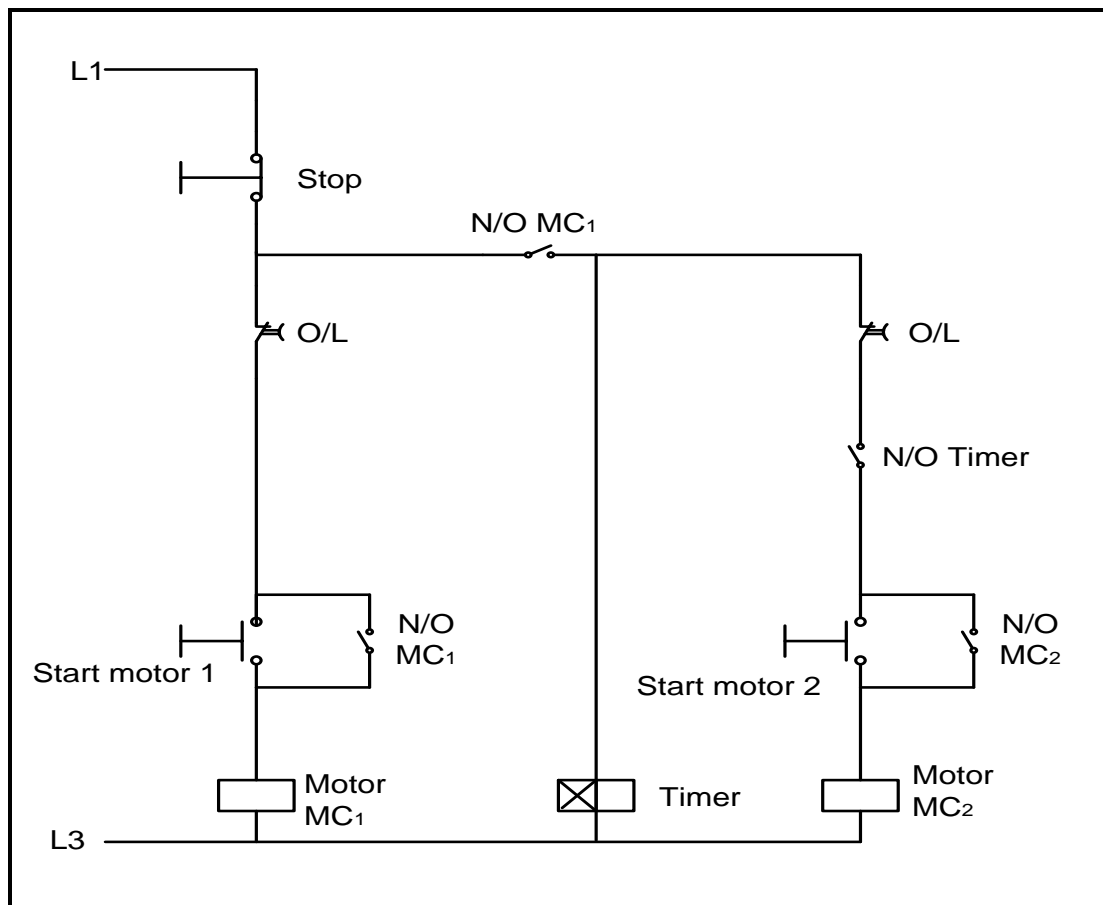

FIGURE 6.5: SEQUENCE MOTOR CONTROL STARTER WITH TIMER
6.5 Refer to the control circuit in FIGURE 6.5 and answer the questions that follow.